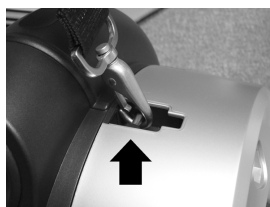

Figure 2
3. Push inward on the clip, so the Clip Release snaps onto the metal post as shown in Figure 2.